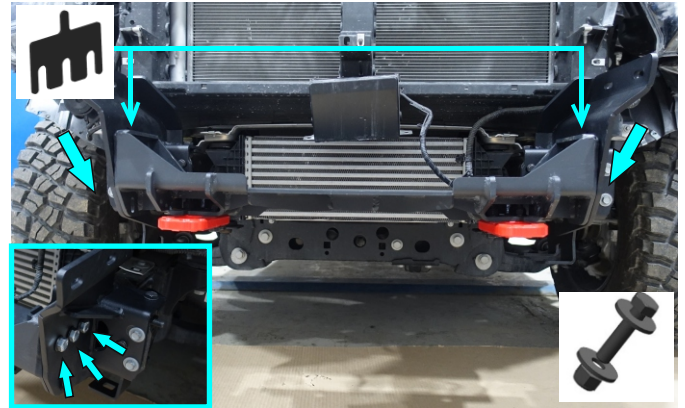

Fig.37
36. Secure winch bracket (item 18) using bolts M12x40, washers M12, nuts M12 (items B5, H4, E5) as shown in fig. 37. If necessary, use adjustment plates (item 42) to eliminate the gap between the winch bracket and the frame brackets. If the gaps are very small, it is allowed to install the plate only on the one side.